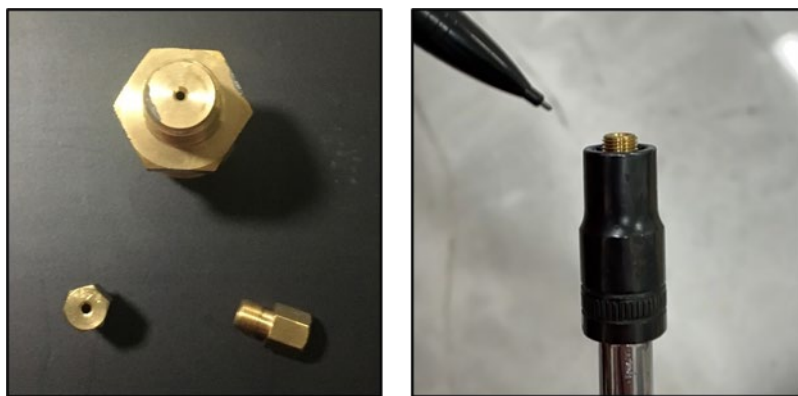

Figure 29 Gas Conversion Kit
The conversion process (orifice change-out) is the same for each gas. Whatever gas your griddle is set up for, it is supplied with a conversion kit (Figure 29 left) to allow changeover to the other fuel type. The customer must provide the required LP gas inlet or NG regulator (4" water column, 1/2" ports).
- Use a shallow socket to ensure enough threads are exposed to get it started (Figure 29 right)